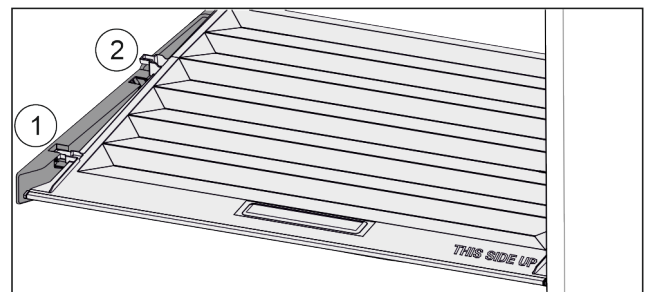

Fig. 94
- Pull the lid up at the front to the opening in the retaining parts Fig. 94 (1).
- Lift from the back and pull it up and out Fig. 94 (2).